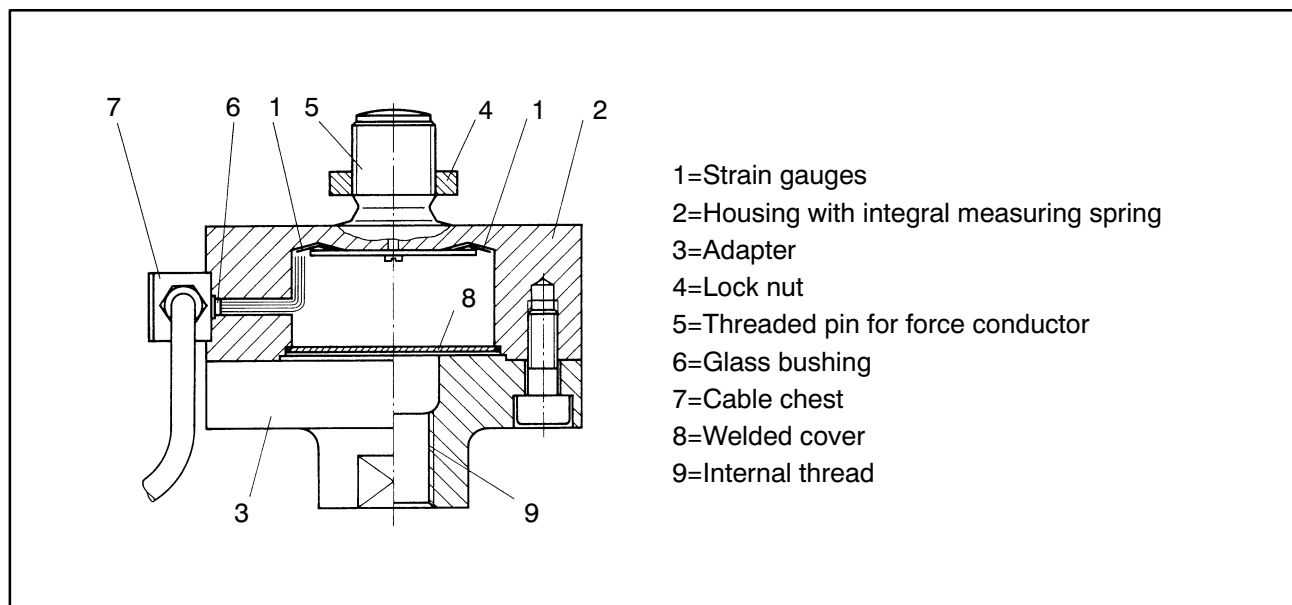

Fig. 2.1: Schematic diagram: U2B
The measuring device is a stainless steel measuring spring to which strain gauges (SG) are applied. The measuring device simultaneously forms the upper part of the transducer housing (Fig. 2.1). The SGs are arranged so that four of them are stretched and the other four are compressed when a force is applied to the transducer. The transducer circuit contains correcting and compensating resistors, in order to reject undesirable influences on the zero signal and sensitivity.